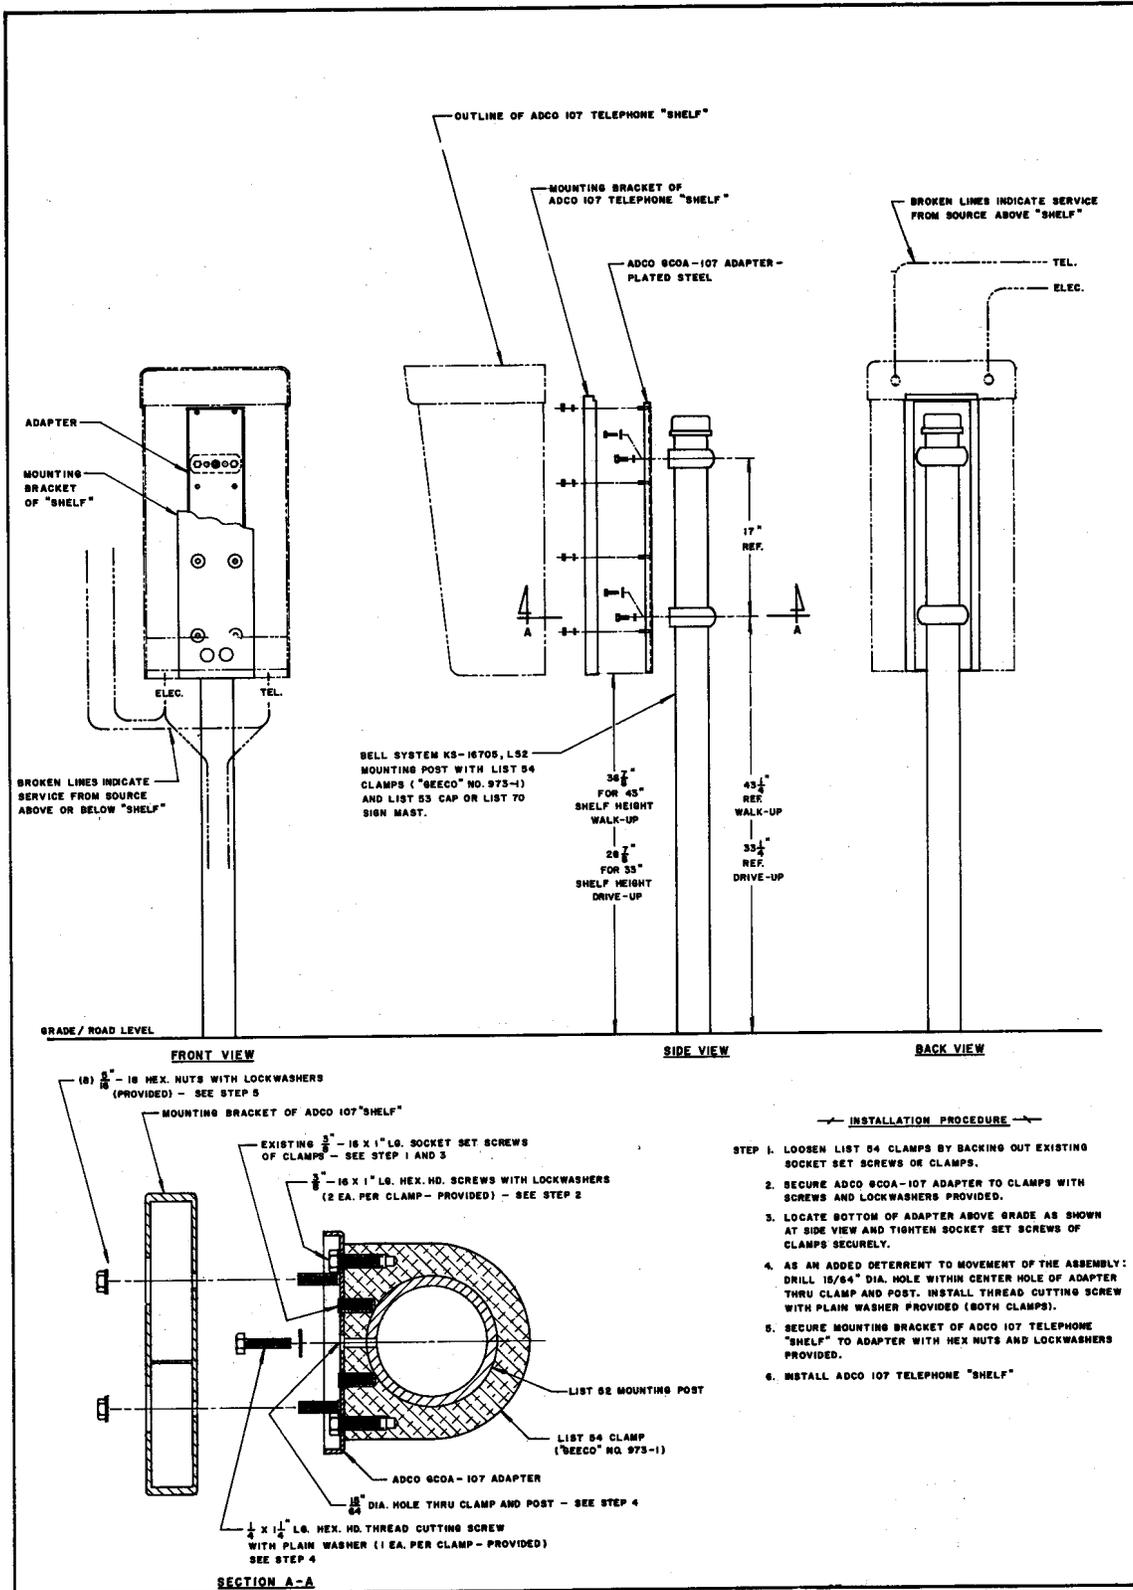

Fig. 6
2.03 The housing can be wall (Fig. 2) or pedestal (Figures 3, 4, and 5) mounted or by using a special adapter can be mounted on an existing 3" round metal post. (Fig. 6)
- 4.06 Installation on a 3½ inch outside diameter pipe is shown in Fig. 6.